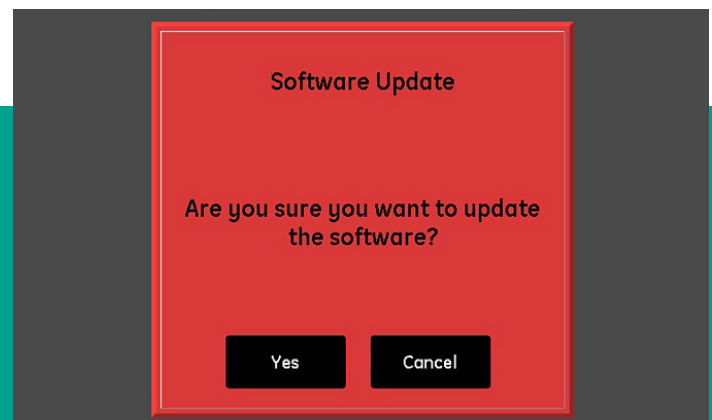

Figure 42: Software update confirmation screen
2. Tap **yes** at a screen similar to figure 42 below to confirm your choice, or tap **cancel** to abort the update.